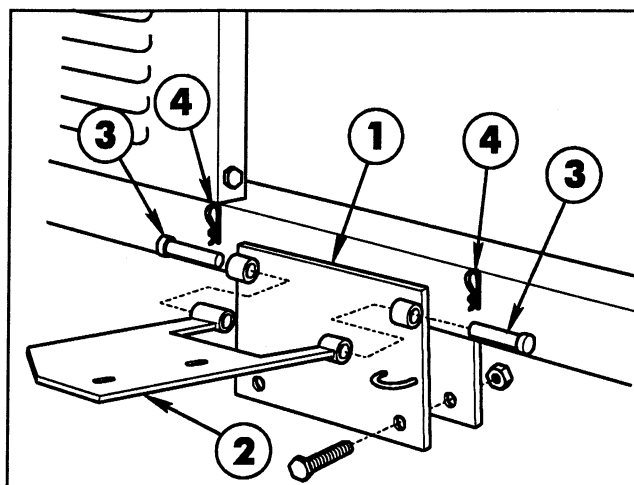

FIG. 4
1. Mount the Pivot Mounting Plate to the angle on the bottom of the Vehicle Frame, using two 1/2" x 1-1/4" cap screws and lock nuts. See FIG. 4.
2. Align the pivot tubes on the Pump Pivot Plate with those on the Pivot Mounting Plate. Insert the two (2) clevis pins and secure with two (2) hairpin cotters.